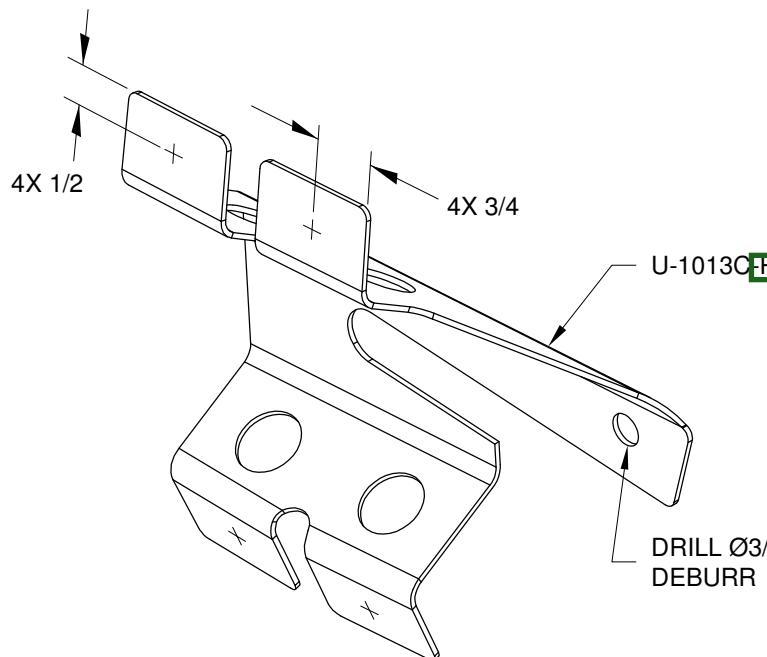

FIGURE 1: MARKING SCREW LOCATIONS
Step 1: Mark screw locations on the U-1013C_L and U-1013C_R Nose Wheel - Fairing Bracket flanges as per Figure 1. The marks will be visible through the wheel fairing. Drill and deburr the forward attach hole as per the callout.